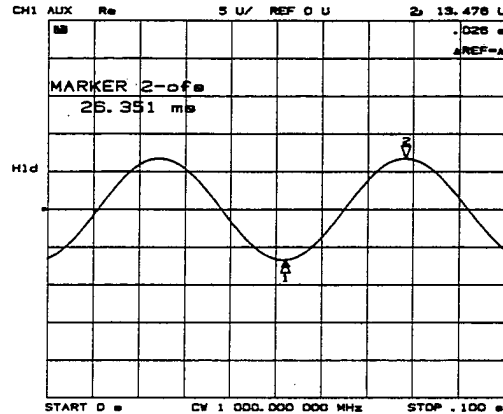

Figure 7-16. Real Format
**[REAL]** (REAL) displays only the real (resistive) portion of the measured data on a Cartesian format (Figure 7-16). This is similar to the linear magnitude format, but can show both positive and negative values. It is primarily used for analyzing responses in the time domain, and also to display an auxiliary input voltage signal for service purposes.